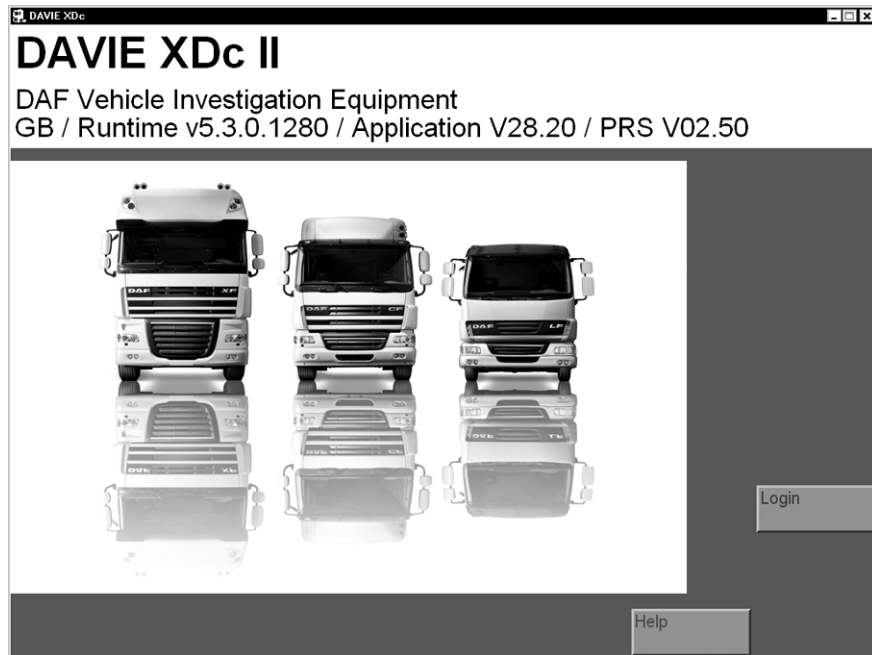

Figure 4-2 Start screen before Login
1. Press the "Login" button (see Figure 4-2).